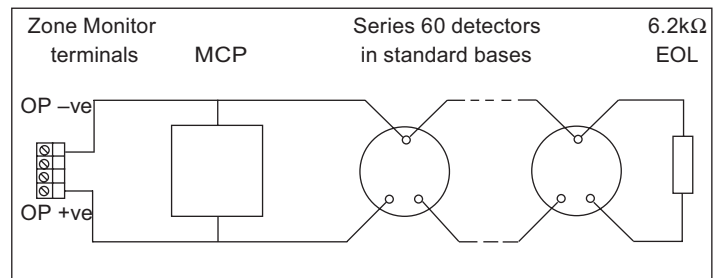

Fig.2 Zone connection - standard bases with 6.2kΩ monitoring resistor at end-of-line
4. *Manual call points can be located at any point in the zone wiring if active end-of-line monitoring with diode detector bases is used. If a 6.2 kW resistor is used for monitoring, manual call points must be connected between the Zone Monitor and the first detector (see Figure 2).*